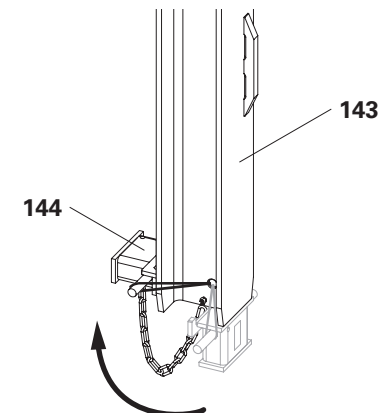

Fig. D2.02
3. Fold spacer (**144**) upwards. (Fig. D2.02)